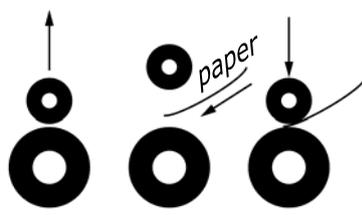

Figure 11: Separator system adjustment II
- Lift up the separator rollers by use of the loose separation lock knob (F3). Put one sheet of the paper under the separator rollers and drop them again (see Figure 11).